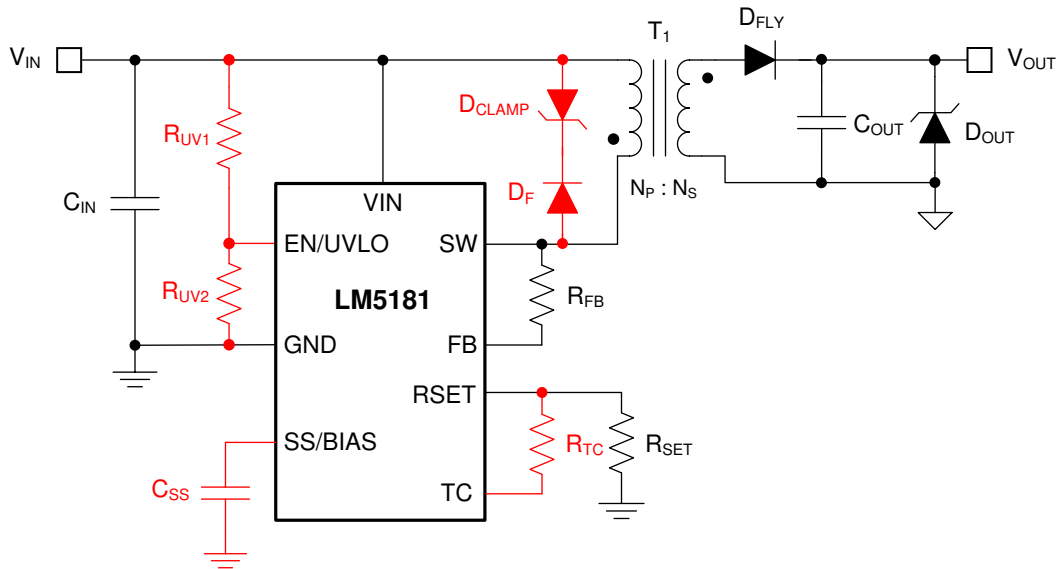

Figure 17. LM5181 Flyback Converter Schematic (Optional Components in Red)
Figure 17 shows a typical schematic of the LM5181 PSR flyback circuit. Components denoted in red are optional depending on the application requirements.
To minimize output voltage regulation error, the LM5181 senses the reflected secondary voltage when the secondary current reaches zero. The feedback (FB) resistor, which is connected between SW and FB as shown in Figure 17, is determined using Equation 8.